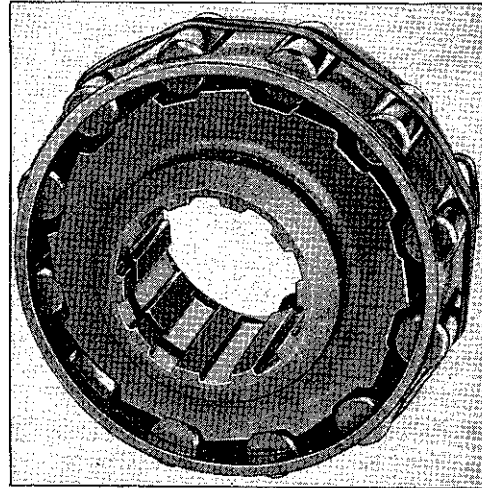

FIG. 221—FREEWHEELING ROLLERS
f. Use heavy grease to hold the freewheeling rollers in position in the retainer. Place a rubber band around the rollers (Fig. 221) with sufficient tension to drop the rollers into the grooves of the cam. Hold them in position when the retainer is turned to the left. The rollers must be in the grooves and compressed to the smallest possible diameter before the ring gear and mainshaft will pass over the rollers. Leave the rubber band around the rollers and install the ring gear and mainshaft. Oil will dissolve the rubber band.